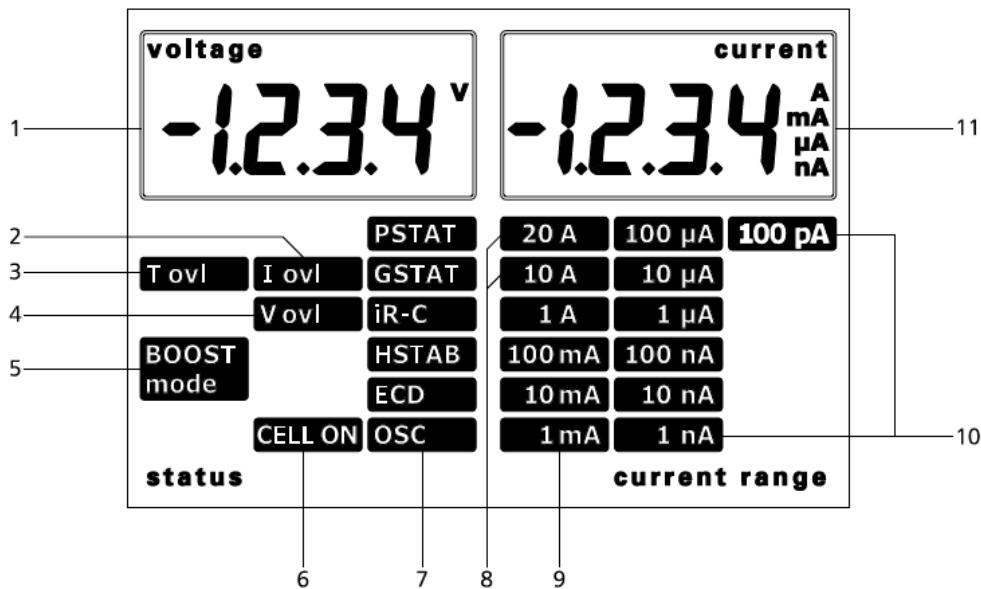

Figure 872 Overview of the display of the Autolab
The display (item 10 in *Figure 871*) is used to provide information about the Autolab to the user. *Figure 872* shows a detail of this display.